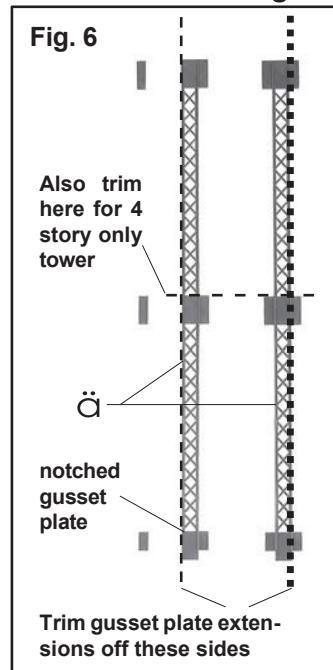

Fig. 6
3. Trim the gusset plate extensions off one side of the eight outside bent lattice parts (3) so there are four left-hand and four right-hand parts.
Place two outside bent lattice parts (3) on the work surface with the rivet side down, positioned as shown in fig. 6. With a razor knife, trim off the three gusset plate extensions along the left side of one part and the right side of the other part, cutting along the outside edge of the raised rib. Repeat with the other three pairs of part (3). See fig. 6 & 7.
Note: If building a four story only tower base, trim off and discard the top portion on all eight parts 3 before trimming the gusset plates. See fig. 6.